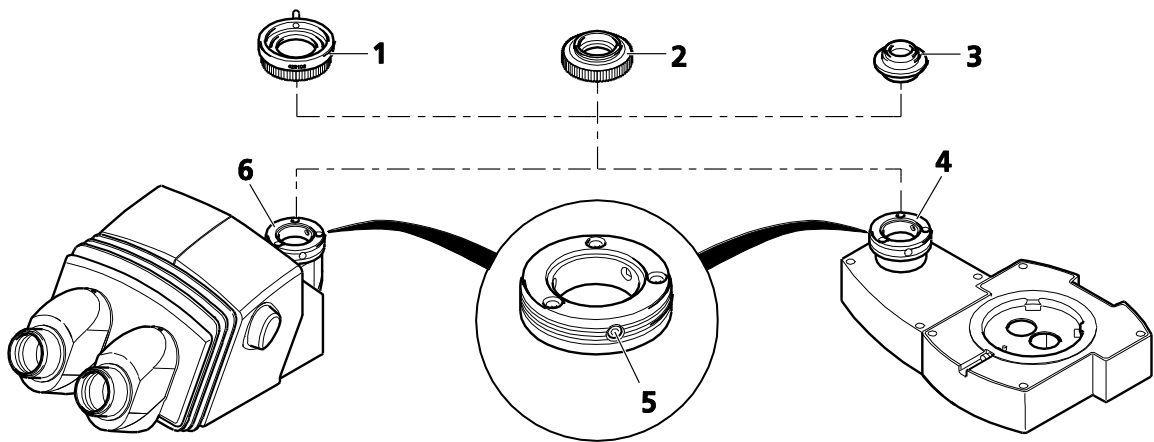

Fig. 11 **Using camera adapters**
- Attach the camera adapter "60N" (Fig. 11/1; 2) to the camera.
Please note: The three grub screws (SW 3) (Fig. 11/5) at the camera port must project neither into the external thread nor into the inner aperture.
- Put the pre-assembled unit onto the camera port (Fig. 11/4 or 6), align it and fasten the sleeve nut of the adapter (Fig. 11/1 or 2) hand-tight.
- Attach the camera adapter "60" (Fig. 11/3) to the camera.
- Put the pre-assembled unit onto the camera port (Fig. 11/4 or 6). Take care that the three grub screws (Fig. 11/5) do not project too far into the inner aperture; unscrew them slightly, if necessary.
- Turn the three grub screws (SW 3) on the tube (Fig. 11/5) counterclockwise until the adapter is firmly seated.